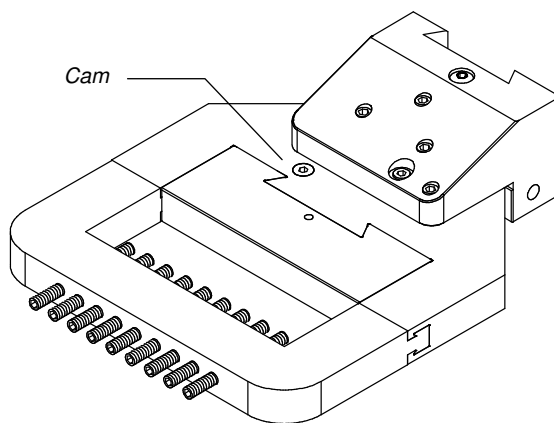

Figure 12
STEP 18. Place a desired insert into the body the same as STEP 6 above and secure it with cam lock as shown in Fig. 12. **DO NOT OVERTIGHTEN.**